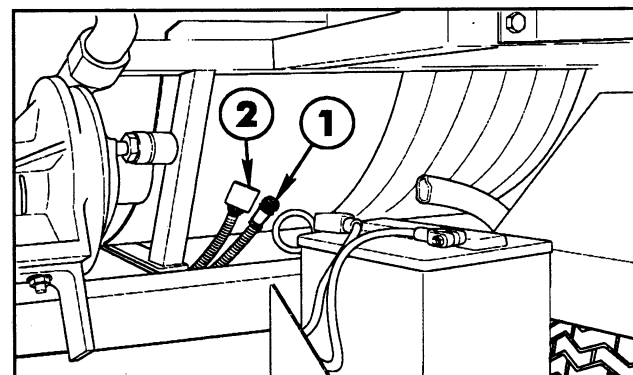

Fig. 6
10. Attach the Chem 2 Injector Control Cable to the mating connector on the Injector Control Cable. See FIG. 6.